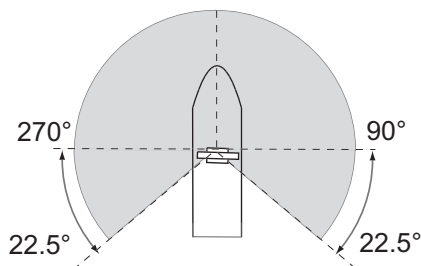

Figure 1
- Mount the antenna unit so that any blind sectors caused by objects (mast, etc.) are kept to a minimum. No blind sector should exist in arc of the horizon from right ahead to 22.5° aft of the beam to either side (see Figure 1 below). Also, individual blind sectors of more than 5° , or the total arc of both blind sectors of more than 20° , should not occur in the remaining arc (Figure 2). Note that any two blind sectors separated by 3° or less are regarded as one sector.